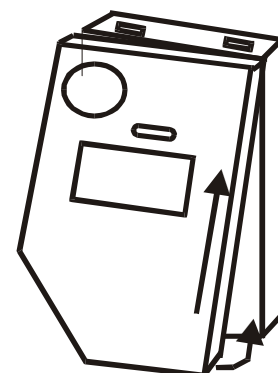

Fig 5
- b. Replace the front panel onto the base by sliding the tabs located on the top front panel into the holes located on the top back panel. Then snap the front panel into the bottom hole (fig 5)